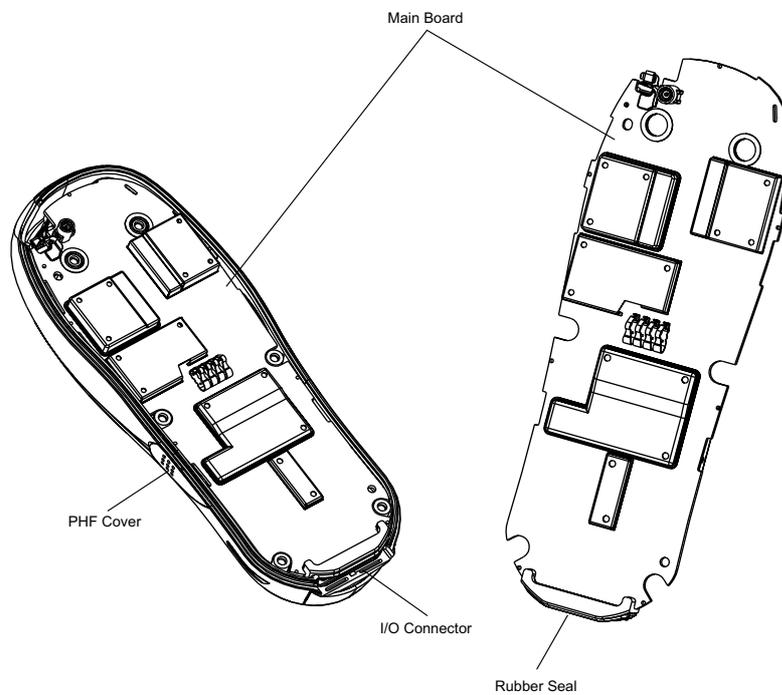

Figure 5 Main Board Removal and Installation
(See Figure 5)
3. Open the Personal Hands-Free Kit (PHF) jack cover (See Figure 5).